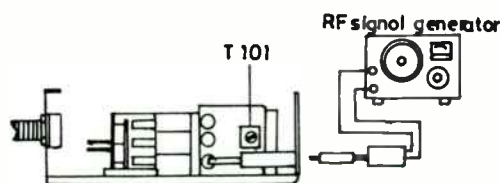

Fig. 4
- (a) Connect sweep generator output to ANT. receptacle through a matching pad shown in Fig. 4, and vertical axis input oscilloscope to TP-1 (R261 10K ohm 1/4W).